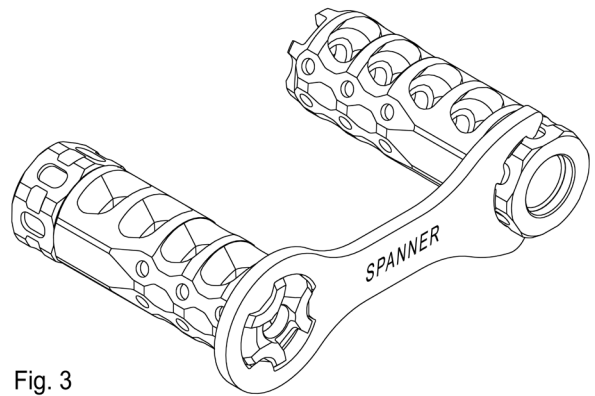

Fig. 3
4. Hold the brake body in timed position using either the included spanner tool inserted over the skeletonized crown (Fig. 3) or an adjustable wrench on the top/bottom flats. Note: Spanner tool can be used to assist timing alignment by eye sighting the wrench handle to a vertical orientation).
5. Turn the timing nut back until it contacts the barrel shoulder. Using the other included spanner tool inserted into the nut slots (Fig. 3) or an additional adjustable wrench on the nut flats, apply approximately 20 ft-lbs of torque. (The included spanner tool will achieve approximately 20 ft-lbs when torqued as hard as comfortably possible).
REMOVAL: Turn the TIMING NUT in the opposite direction from installation using either the included spanner tool (Fig. 3) or an adjustable wrench. Once the pre-load torque is breached, the brake/nut assembly will thread freely off barrel.